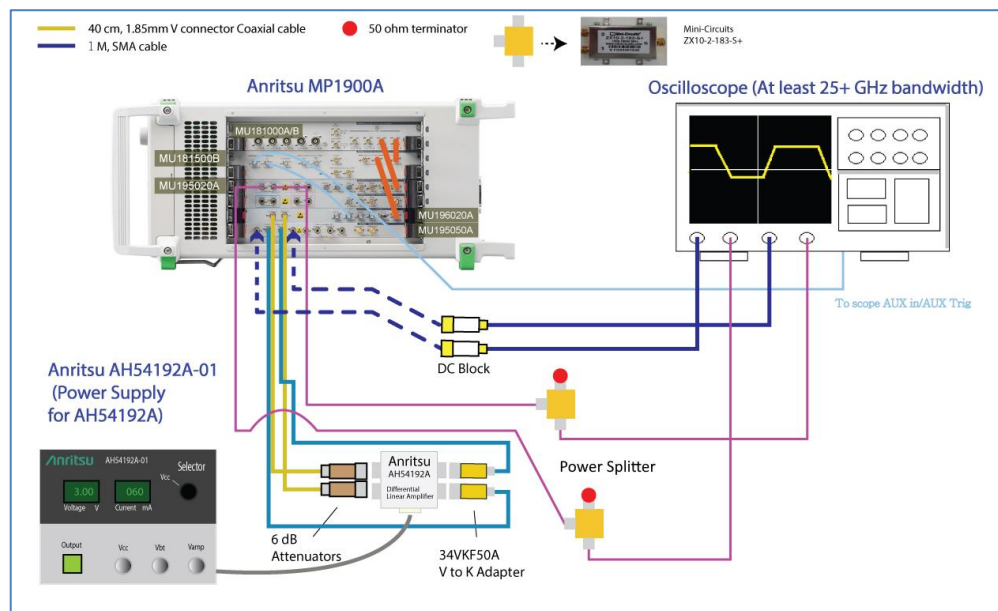

FIGURE 77. TEST SETUP FOR BERT ASSEMBLY STEP RESPONSE EXTRACTION
1. Connect the test setup as shown in Figure 77 below.